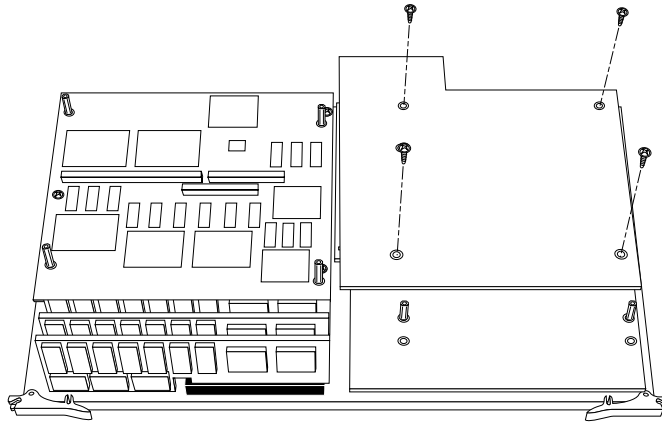

Figure 2-9 Positioning the Galileo Video board over the graphics board set
2. Position the Galileo Video board over the graphics board set, as shown in Figure 2-9.
4. When you are satisfied that the connectors are properly seated, screw the Galileo Video board to the graphics board set using eight of the screws provided in the Galileo Video package. See Figure 2-9.